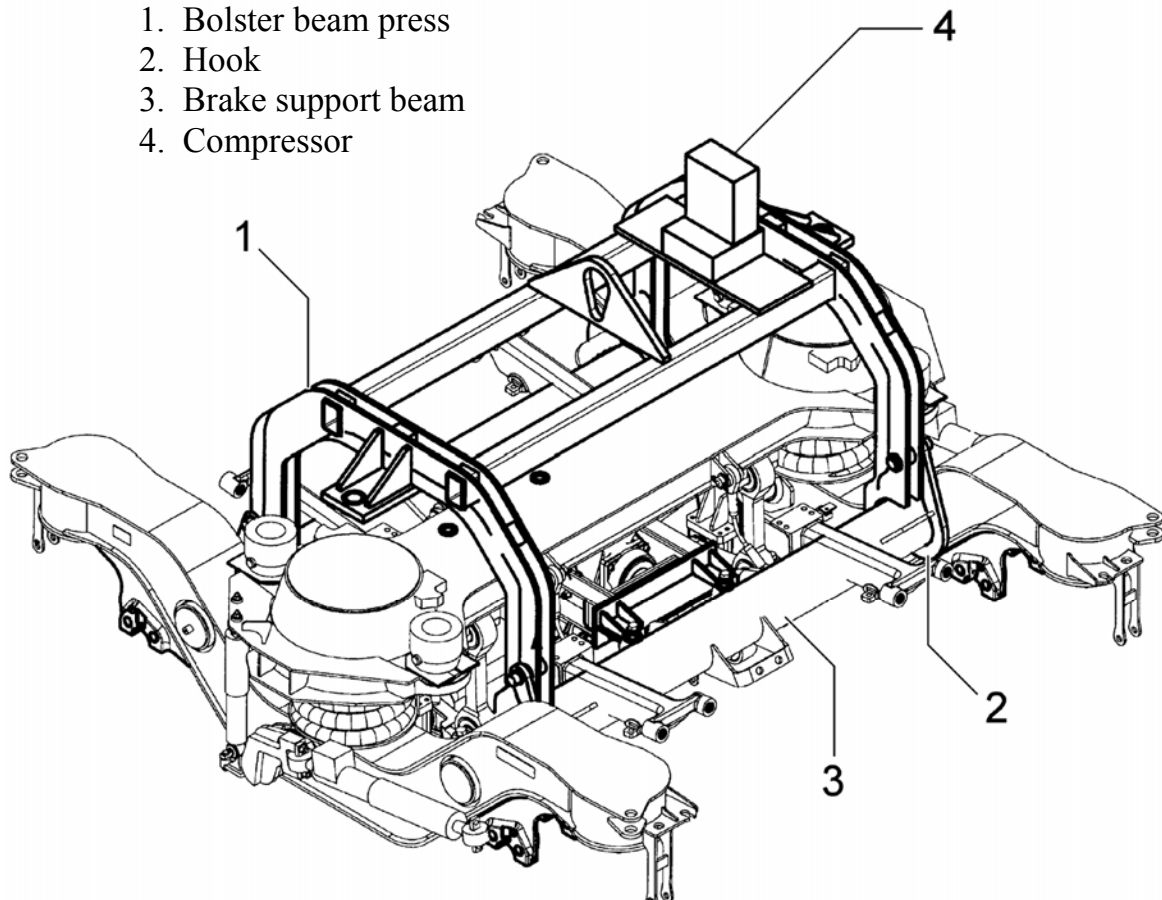

FIG. 4.22 PRESSING THE BOLSTER BEAM
The separation of the bolster beam from the traction centre (Para. 4.3.1.3), from the anti-roll bar (Para. 4.3.1.4) and the removal of the safety cables (Para. 4.3.1.5) requires the use of the press 2613037500 (1 - FIG. 4.22). The press is secured to the brake support beam (3) through the hooks (2).